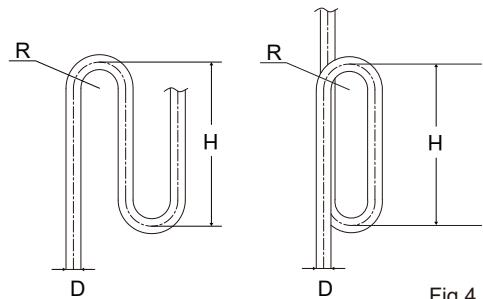

Fig 4.11
- When the outdoor unit is above the indoor unit, and the level difference exceeds 20 m, it is recommended that an oil return bend be set up at every 10 m interval on the gas pipe of the main piping. The recommended specifications of the oil return bend are as shown in figure 4.11.
- Requirement 3: The largest level difference between indoor unit and outdoor unit should not exceed 50m (if the outdoor unit is above) or 40m (if the outdoor unit is below). Additionally: If the outdoor unit is above and the level difference is greater than 20m, it is recommended that an oil return bend with dimensions as specified in Figure 4.11 is set every 10m in the gas pipe of the main pipe.